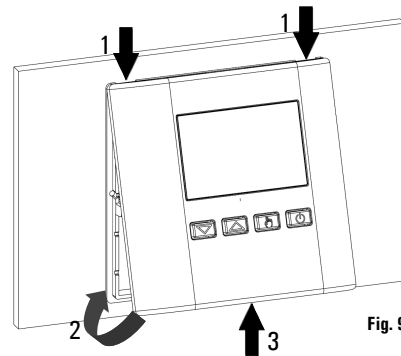

Fig. 9
- Close the upper side of the cover while, at the same time, slightly press with a finger, the plastic tooth located on the bottom side of the base making it lean towards the inner side of the thermostat (see the arrow in Fig. 9).